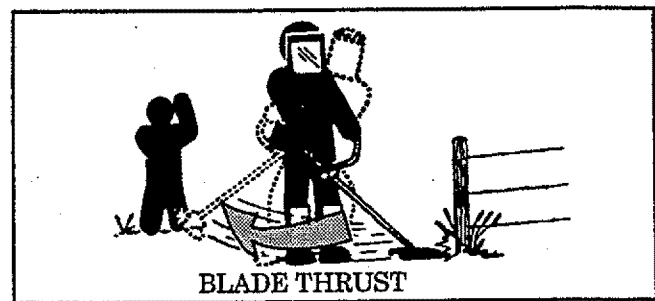

Figure 21
1. **WHAT CAUSES BLADE THRUST** *Blade Thrust* can occur when the spinning blade contacts an object that it does not cut. This contact causes the blade to stop for an instant and then suddenly move or "thrust" away from the object that was hit. The "thrusting" reaction can be violent enough to cause the operator to be propelled in any direction and lose control of the unit. The uncontrolled unit can cause serious injury if the blade contacts the operator or others. Figure 21.